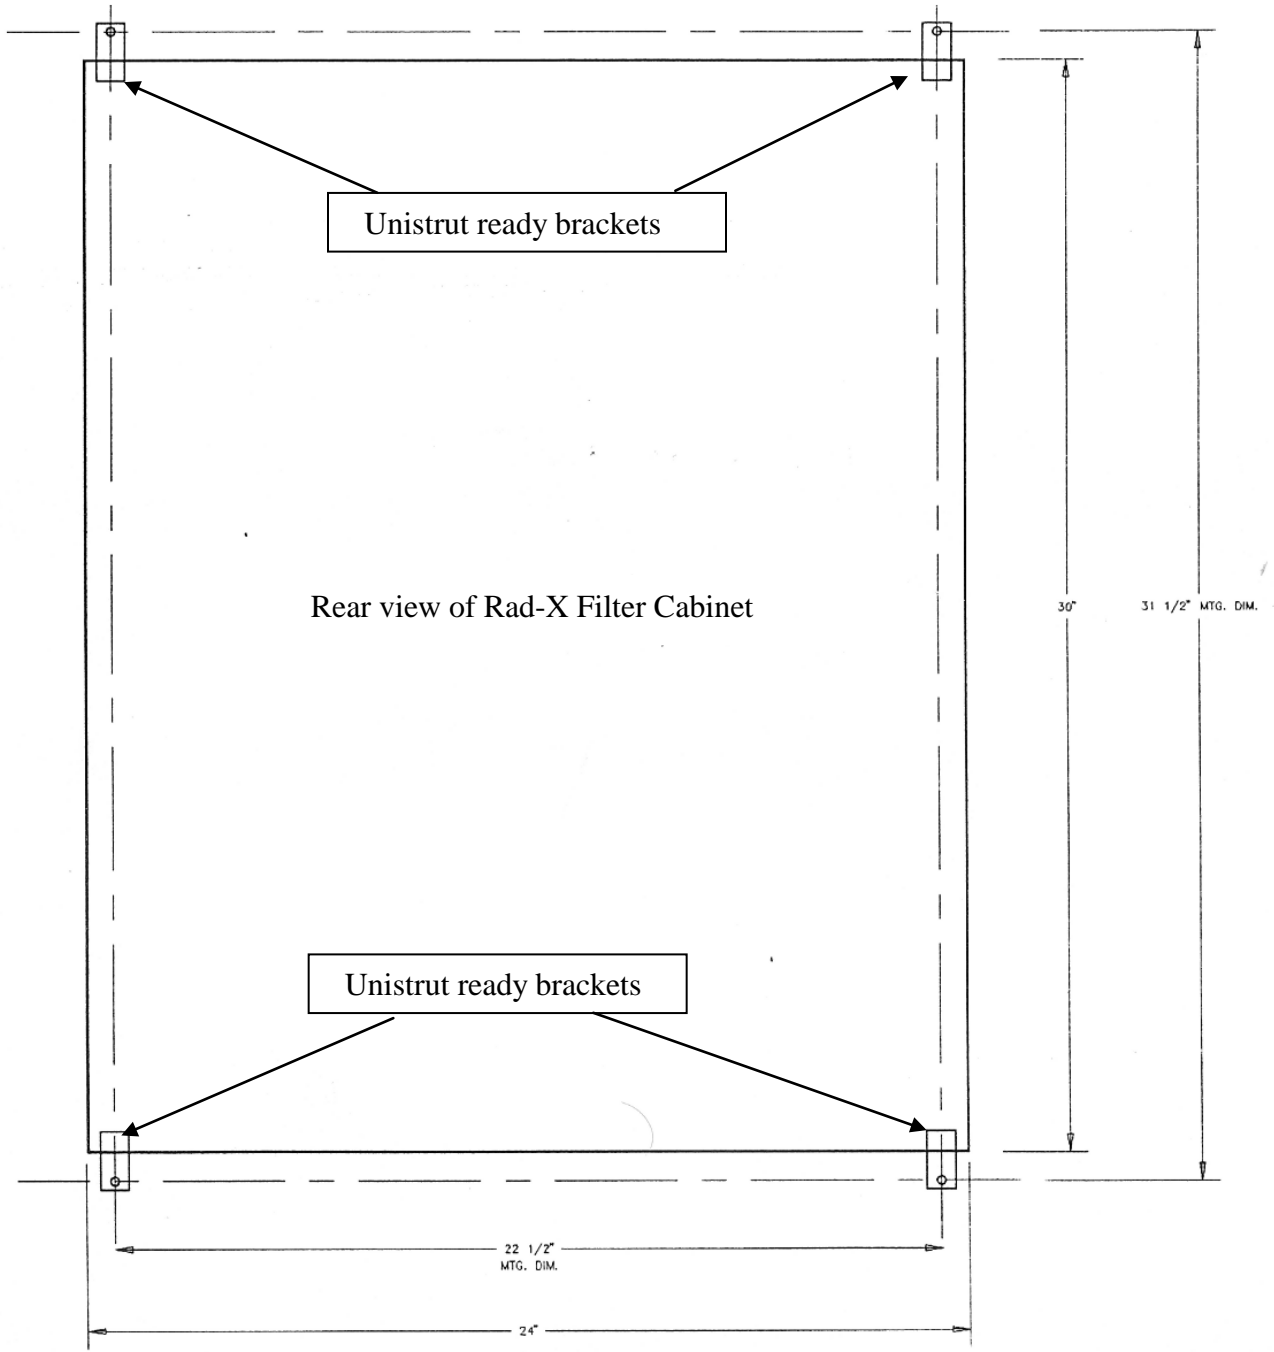

Figure 2
2. The product is designed to be wall mounted and is fitted with unistrut ready brackets. **Figure 2** illustrates a rear view of the Rad-X Filter Cabinet with unistrut dimensions. Please note that the unistrut and associated hardware is not included with the Rad-X Filter and must be provided by the installing contractor.